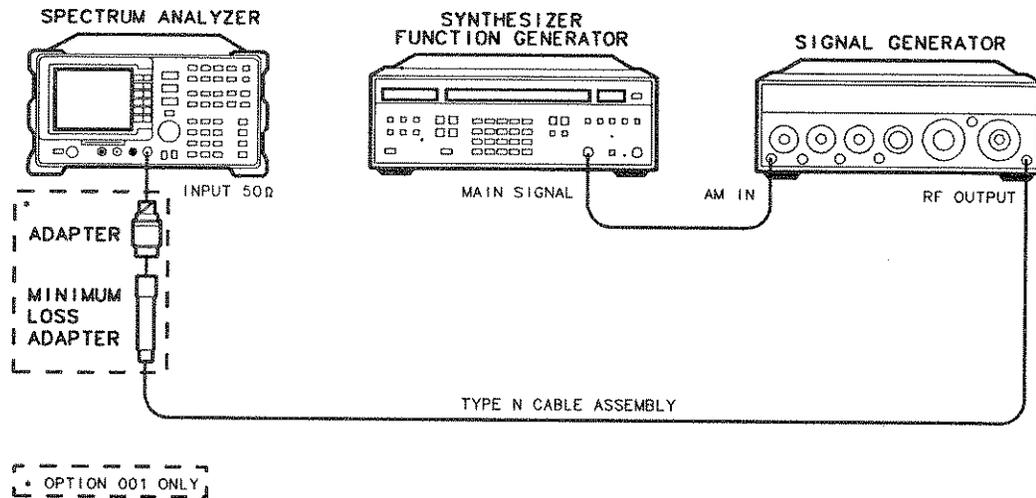

Figure 3-7. Sweep Time Accuracy Test Setup
3. Connect the equipment as shown in Figure 3-7.